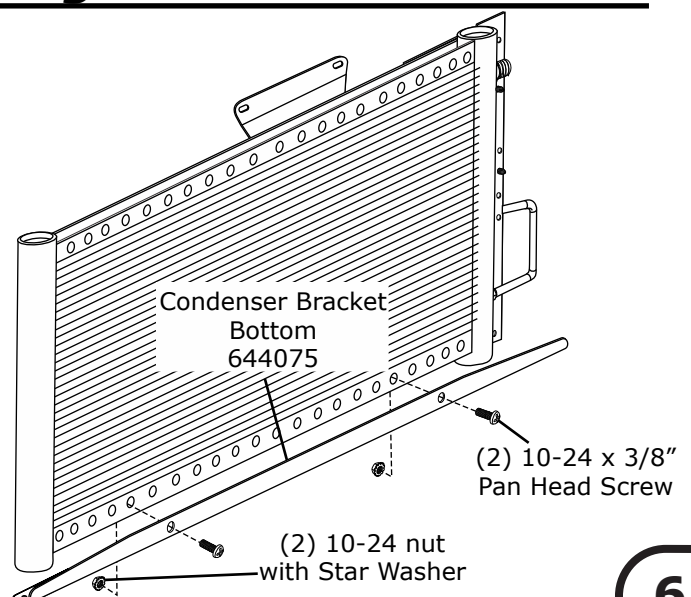

Figure 5
1. Install bottom mounting bracket onto condenser using (2) 10-24 x 3/8" pan head screws and (2) 10-24 nuts with star washers (See Figure 5, below). **NOTE: Bracket mounts through the 5th hole from the left side of the condenser.**